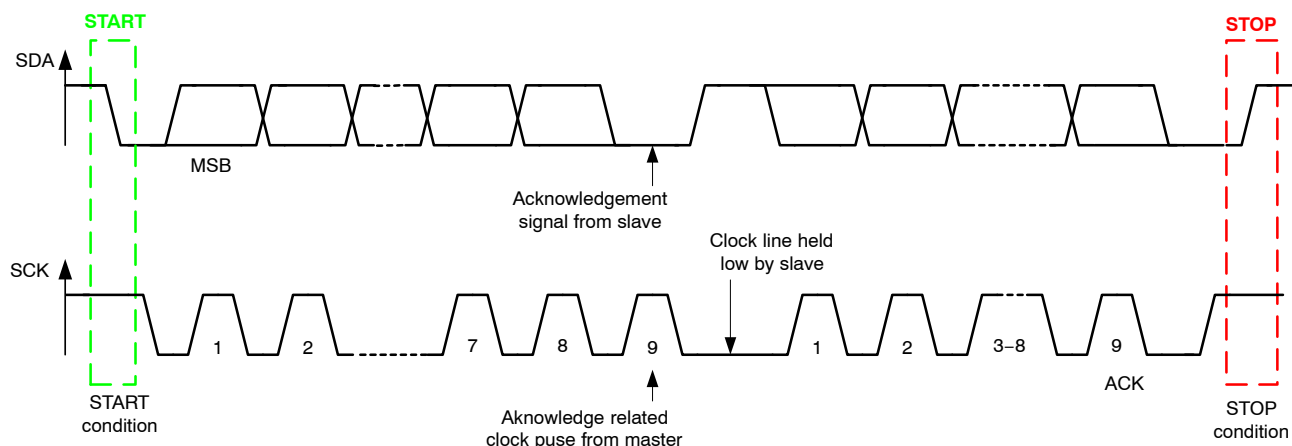

Figure 25. Data Transfer on the I²C-bus
The bus stays busy if a repeated START (Sr) is generated instead of a STOP condition. In this respect, the START (S) and repeated START (Sr) conditions are functionally identical (See Figure 25). The symbol S will be used to represent START and repeated START, unless otherwise noted.
with the most significant bit (MSB) first (See Figure 25). If a slave can't receive or transmit another complete byte of data, it can hold the clock line SCK LOW to force the master into a wait state. Data transfer then continues when the slave is ready for another byte of data and releases clock line SCK.